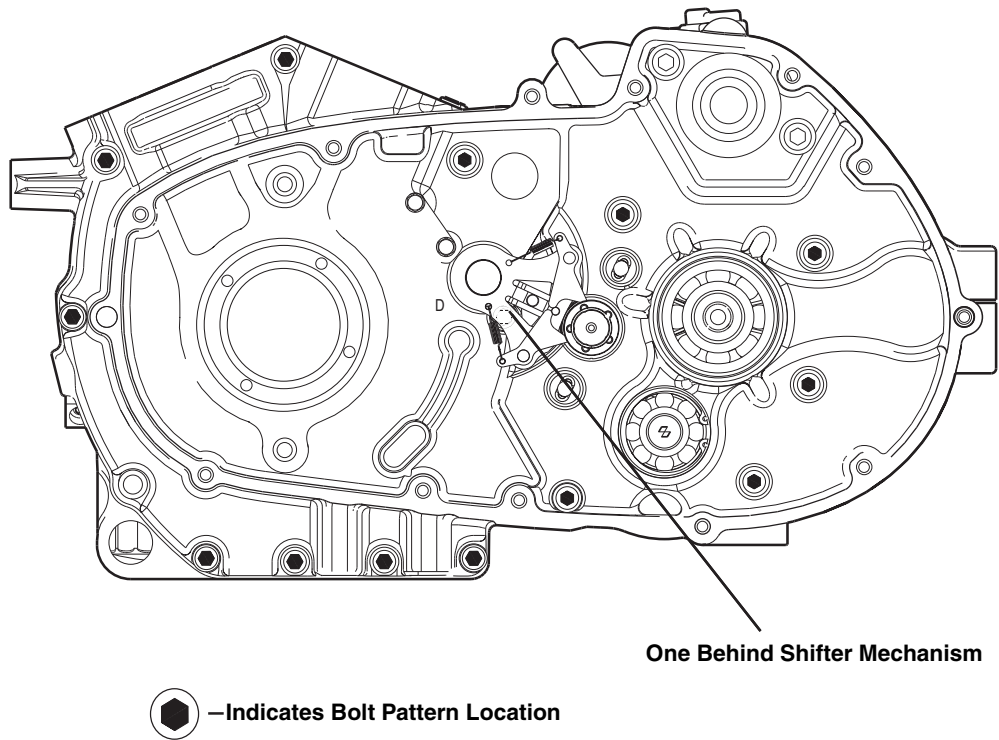

Figure 3-152. Crankcase Fasteners
7. See Figure 3-152. Assemble crankcase halves together.